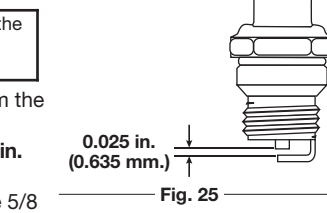

Fig. 25
1. Stop the engine and allow it to cool. Remove the six (6) screws on the back of the engine cover with a Flat-head or T-25 Torx screwdriver (Fig. 25).
4. Replace cracked, fouled or dirty spark plug. Set the air gap at **0.025 in. (0.635 mm)** using a feeler gauge (Fig. 25).